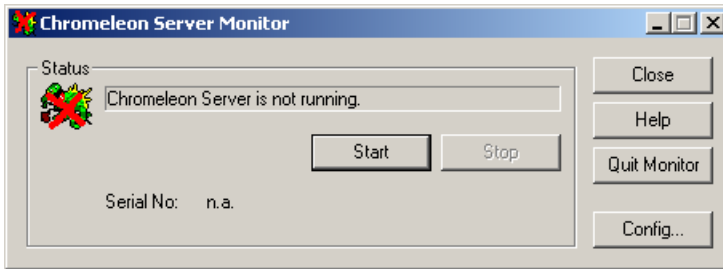

Figure B-5. Server Not Running
4. If the server is not already running, start it by clicking **Start** (see Figure B-5).